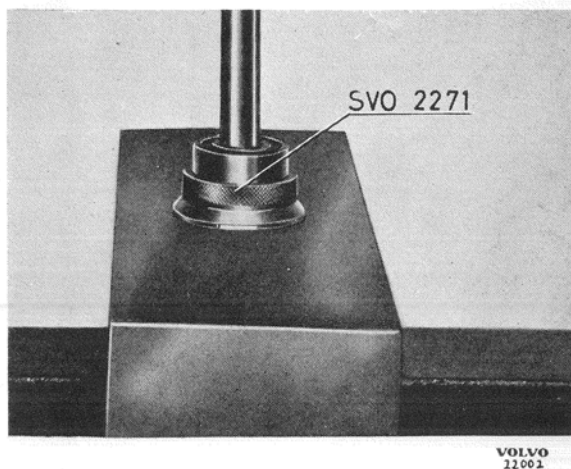

Fig. 76. Fitting the ball bearing.
1. Place the front bearing on fixture SVO 2271 with the protector plate downwards. See Fig. 76. Press down the shaft into the ball bearing so that the end of the shaft bottoms against the base plate and then press the pulley so that the end of the shaft (early production) is level with this. Place a 7 mm long rod under the shaft in the case of late production units.